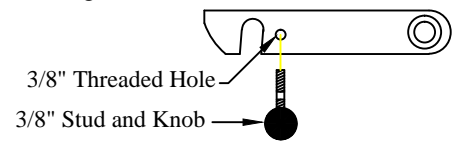

Figure 25: Original Series platform latch knob.
- 1. Install** the two (2) knobs on the platform latches (Original Series only) see (Figure 25).
- 2. Install** the two (2) square plastic insert nuts for the license plate into the square holes on the liftgate.
- 3. Install** the license plate using the two (2) stainless steel screws provided.